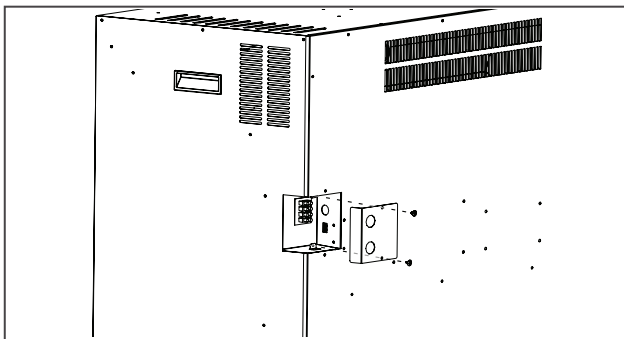

Fig. 1
- Locate the desired 2 conductor or 3 conductor wire cable to the right side of the enclosure for the hard-wiring installation based on the desired 120 V or 240 V heat output capability (**Fig.1**).